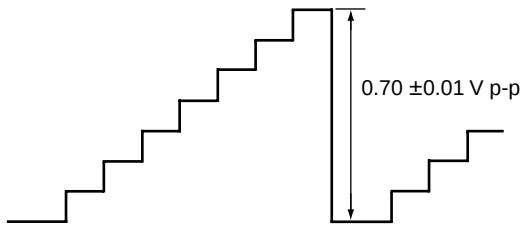

Fig. 3-10
3. Observe the TP2: BR board (G OUT) using an oscilloscope, and adjust the COMB-F Y level so that the output level will be $0.70 \text{ V} \pm 0.01 \text{ V p-p}$. (Fig. 3-10)